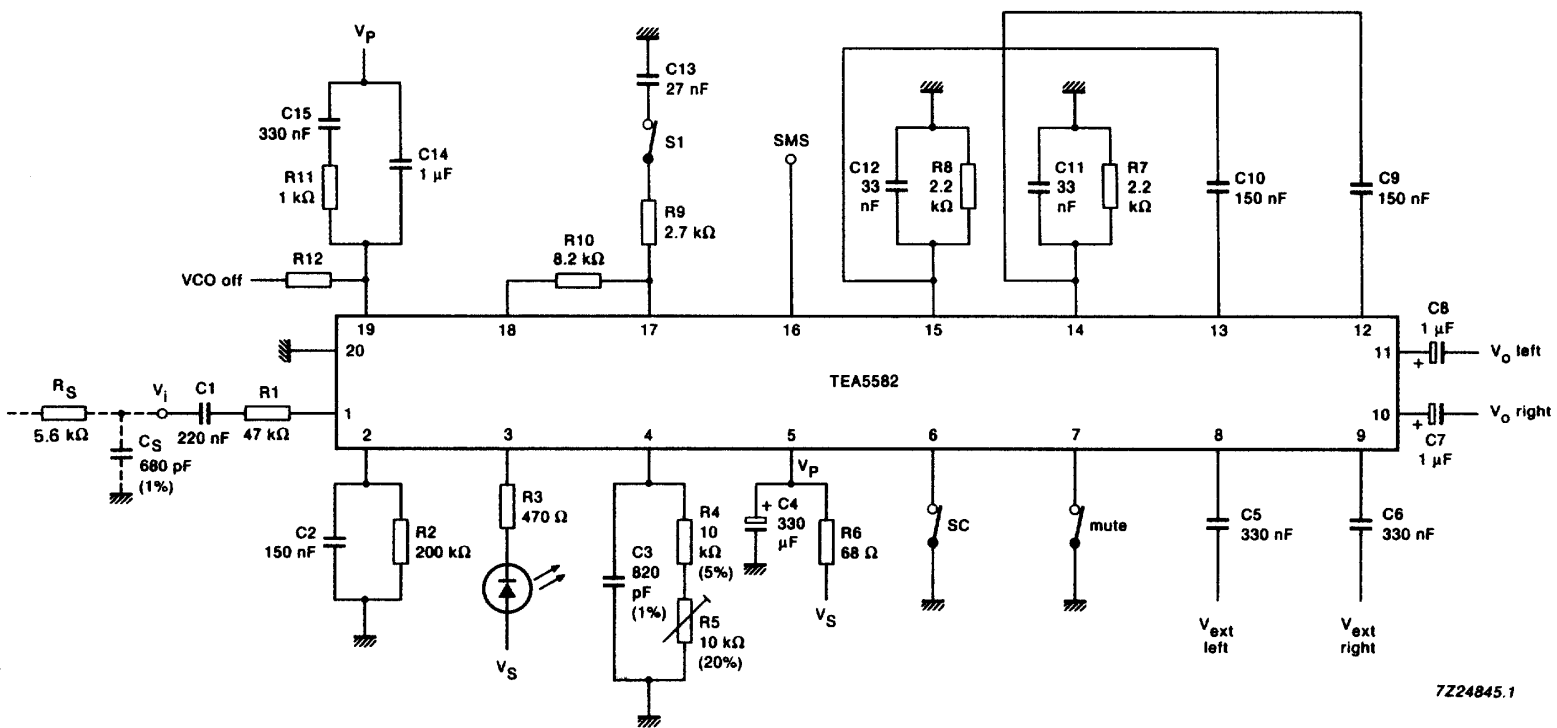

Fig.5 Test and application circuit.
Measured in the test circuit of Fig.5;  $V_S = 8.5 \text{ V}$ ;  $T_{\text{amb}} = 25 \text{ }^\circ\text{C}$ .
AC conditions: (1) input signal ( $V_i$ ) of 815 mV p-p for L = 1, R = 1 (mono)  $f_m = 1 \text{ kHz}$  (= 80% modulation). (2) MUX input signal ( $V_i$ ) of 1.2 V p-p for L = 1, R = 0 and no DBX;  $f_m = 1 \text{ kHz}$  (stereo) and  $V_{\text{pilot}} = 200 \text{ mV p-p}$ . (3) S1 open, unless specified (without L-R filter); voltage controlled oscillator (VCO) adjusted to 188.8 kHz at  $V_i = 0 \text{ V}$ ; values are measured with an external IF roll-off network (-2 dB at 31.5 kHz =  $2f_H$ ) at the input (dashed components RS and CS in Fig.5). All the above conditions apply unless otherwise specified.